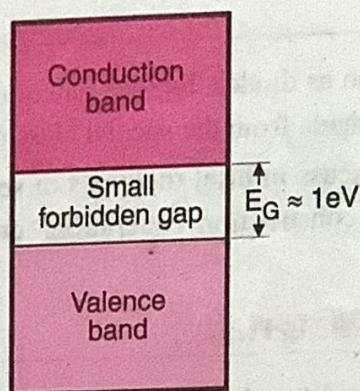

Fig. 10.2.2 : Energy band diagram of a semiconductor
- However with increase in temperature the valence electrons start acquiring additional energy and they can cross the narrow forbidden gap to enter into the conduction band. (See Fig. 10.2.2).
- Fig. 10.2.2 shows the energy band diagram of a semiconductor.